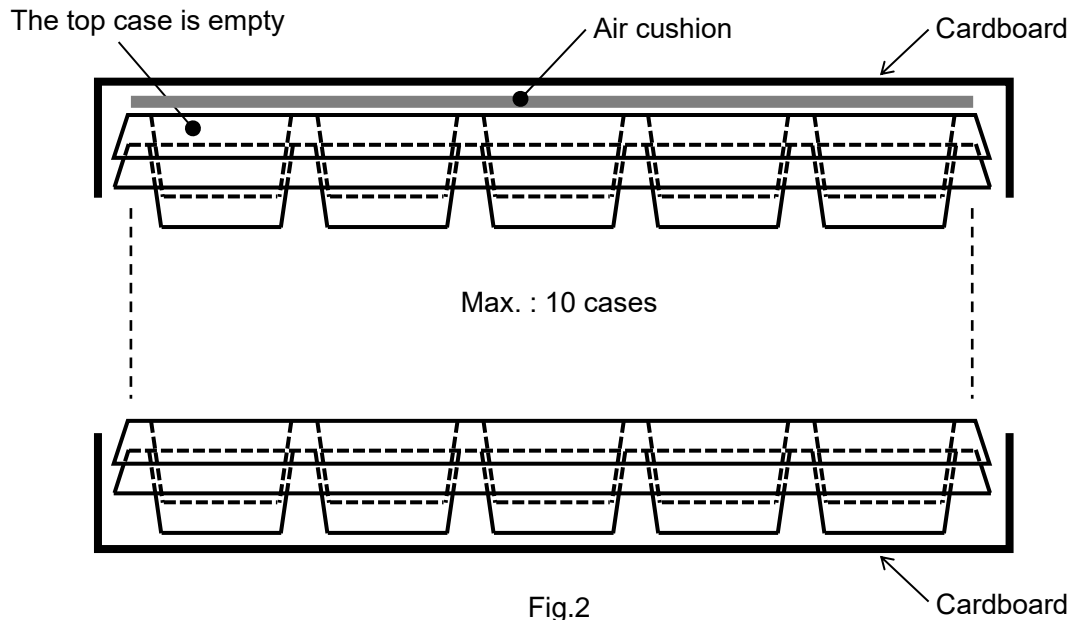

Fig.2
- (1) Put RD3 (Max. : 30 pcs.) in the packing case.
- (2) Pile up 10 cases (the top case is empty), cover top and bottom with the cardboard and fix 2 places with rubber bands. (Refer to Fig.2)